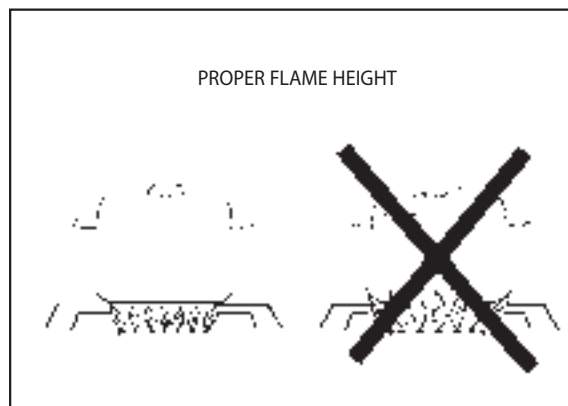

Fig. 06
- For safety reasons the flame must never extend beyond the bottom of the cooking utensil. Never allow flames to curl up the side of the pan (see Fig. 06). This will discolor or damage the utensil.